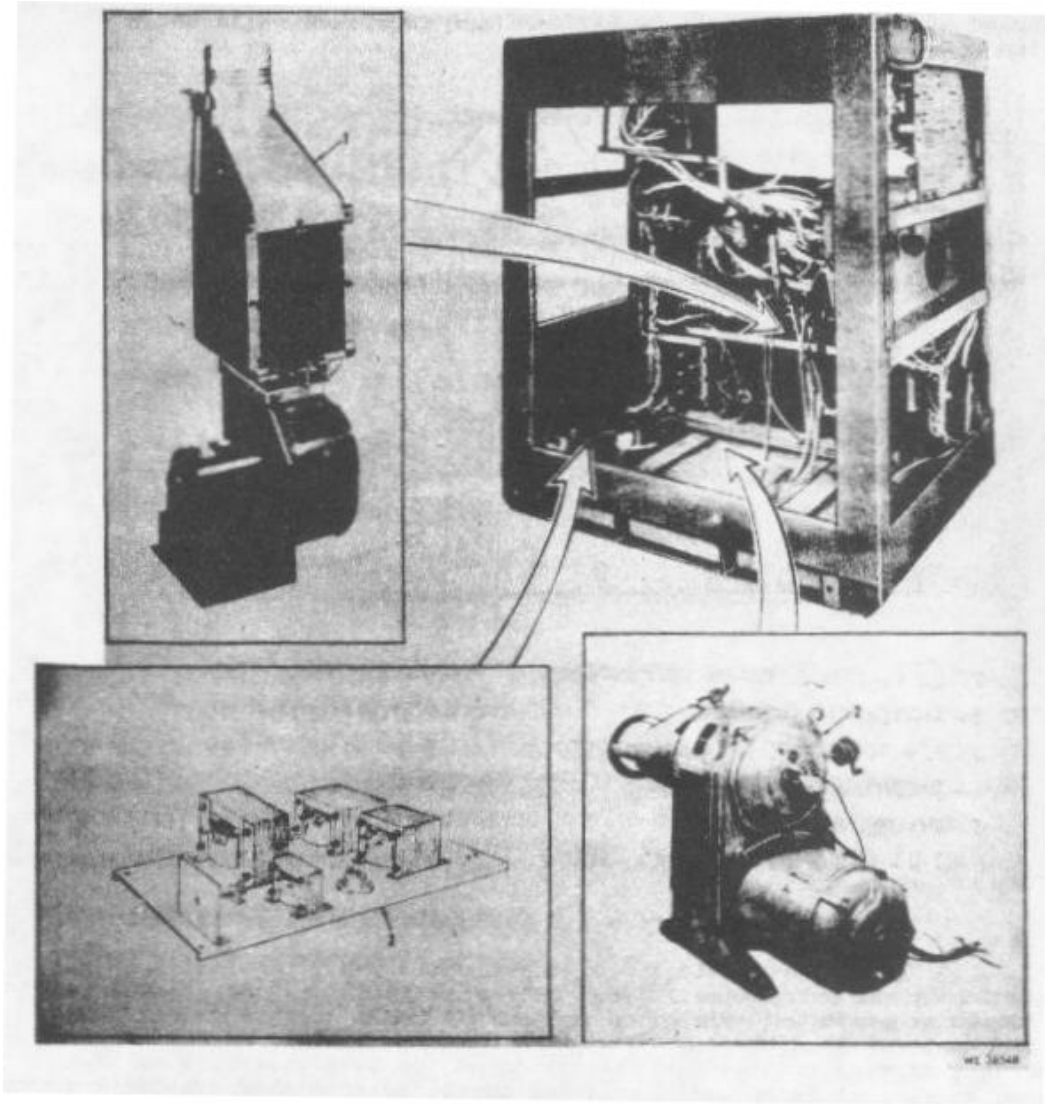

Figure 12. AGT 9 test stand--partially exploded view.
a. Figure 12 shows the transformer panel assembly (3), load bank and blower motor assembly (1), and varidrive assembly (2). Part of the wiring which interconnects the various components of the test stand can also be seen in this view. Rear cover panels enclose the rear of the test stand after these major components are installed.